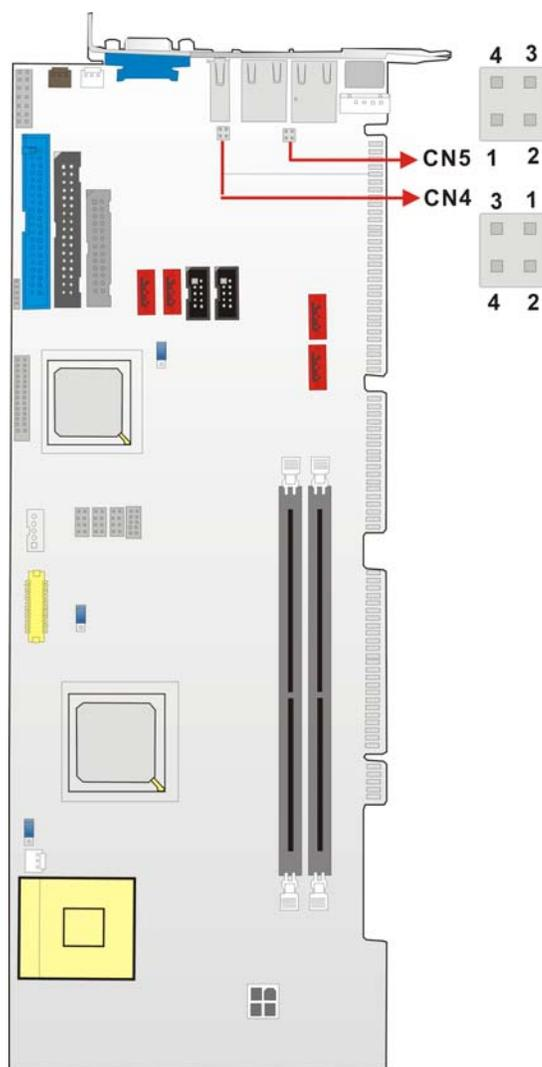

Figure 3-15: J_LANLED Connector Locations
- CN Location:** See Figure 3-15